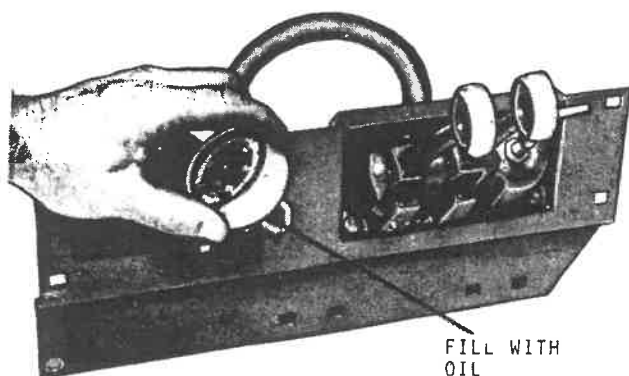

Fig. 62 — Fill Gauge Protector Cavity With Oil
After servicing the pressure gauge or the gauge protector, add SAE 20 oil to the gauge protector cavity until it is full (Fig. 62). Install the pressure gauge and check the gauge reading. Add or remove oil until the gauge reads zero (0).